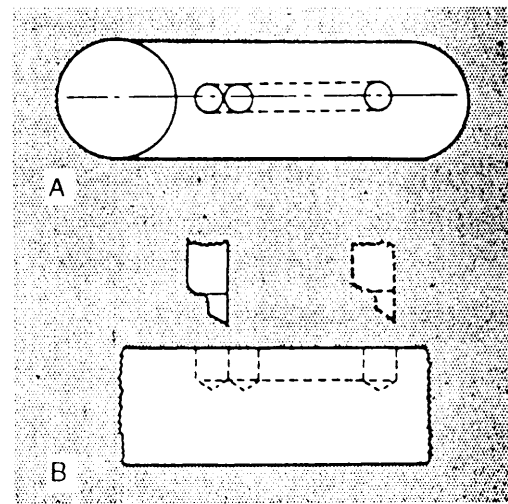

Figure 9-9.—Cutting a keyway in the middle of a shaft.
SHAPING KEYWAYS IN SHAFTS.—Occasionally, you may use a shaper to cut a keyway in a shaft. Normally, you will lay out the length and width of the keyway on the circumference of the shaft. A centerline laid out along the length of the shaft and across the end of the shaft will make the setup easier (fig. 9-9, view A). Figure 9-9 also shows holes of the same diameter as the keyway width and slightly deeper than the key drilled into the shaft. These holes are required to provide tool clearance at the beginning and end of the cutting stroke. The holes shown in figure 9-9 are located to cut a blind keyway (not ending at the end of a shaft). If the keyway extends to the end of the shaft, only one hole is necessary.
1. Lay out the centerline, the keyway width, and the clearance hole centers, as shown in view A of figure 9-9. Drill the clearance holes.
3. Adjust the stroke and the position of the ram so the forward stroke of the cutting tool ends at the center of the clearance hole. (If you are cutting a blind keyway, be sure the cutting tool has enough clearance at the end of the return stroke so the tool will remain in the keyway slot.) (See view B of fig. 9-9.)